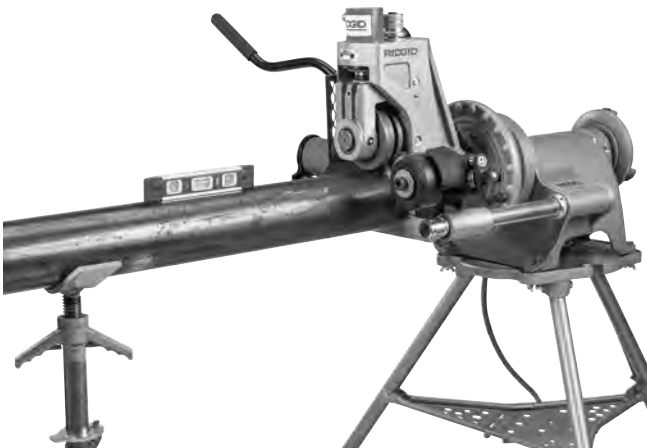

Figure 13 – Leveling Pipe
- The centerline of the pipe and the centerline of the drive shaft should be parallel. This can be checked with a level on top of the hydraulic cylinder and on the pipe. See Figure 13.